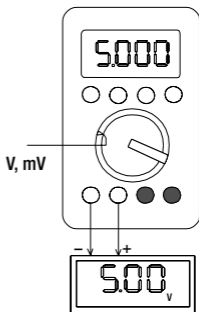

Figure 14 Connections for Use as a Voltage Source
- ⇒ Set the functions selector (6) to "V, mV"
- ⇒ Connect the item under test in accordance with Figure 14 using test leads.